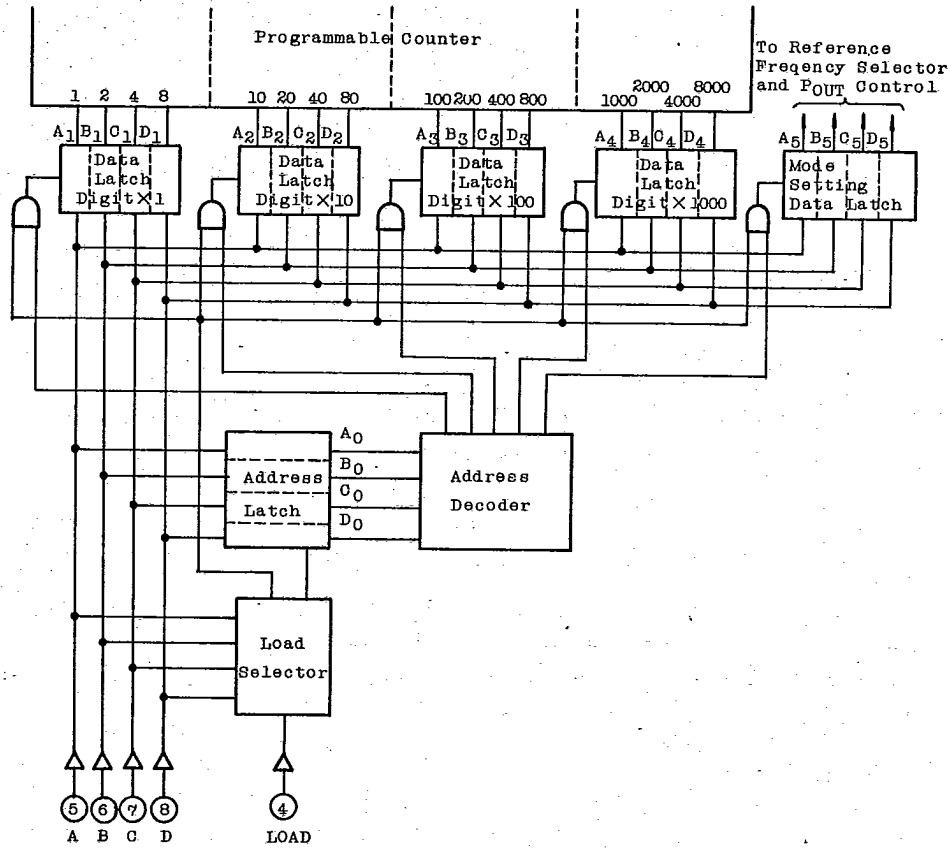

Fig. 4 CONFIGURATION OF DATA LATCH
- 3) The configuration of data latches is as shown in Fig. 4.